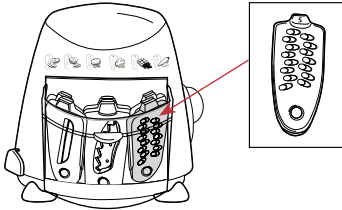

Fig 28
7. Blade 5 is the 'Fine Shredding' blade and its position in the blade storage compartment is the far right front position, see Figure 28.